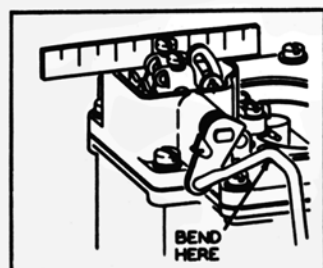

Figure 3
b. Type "B". (See figure 3.) Back out throttle stop screw until throttle valves seat in bores. Pump connector link in outer hole. Hold a straight edge across the top of dust cover housing adjacent